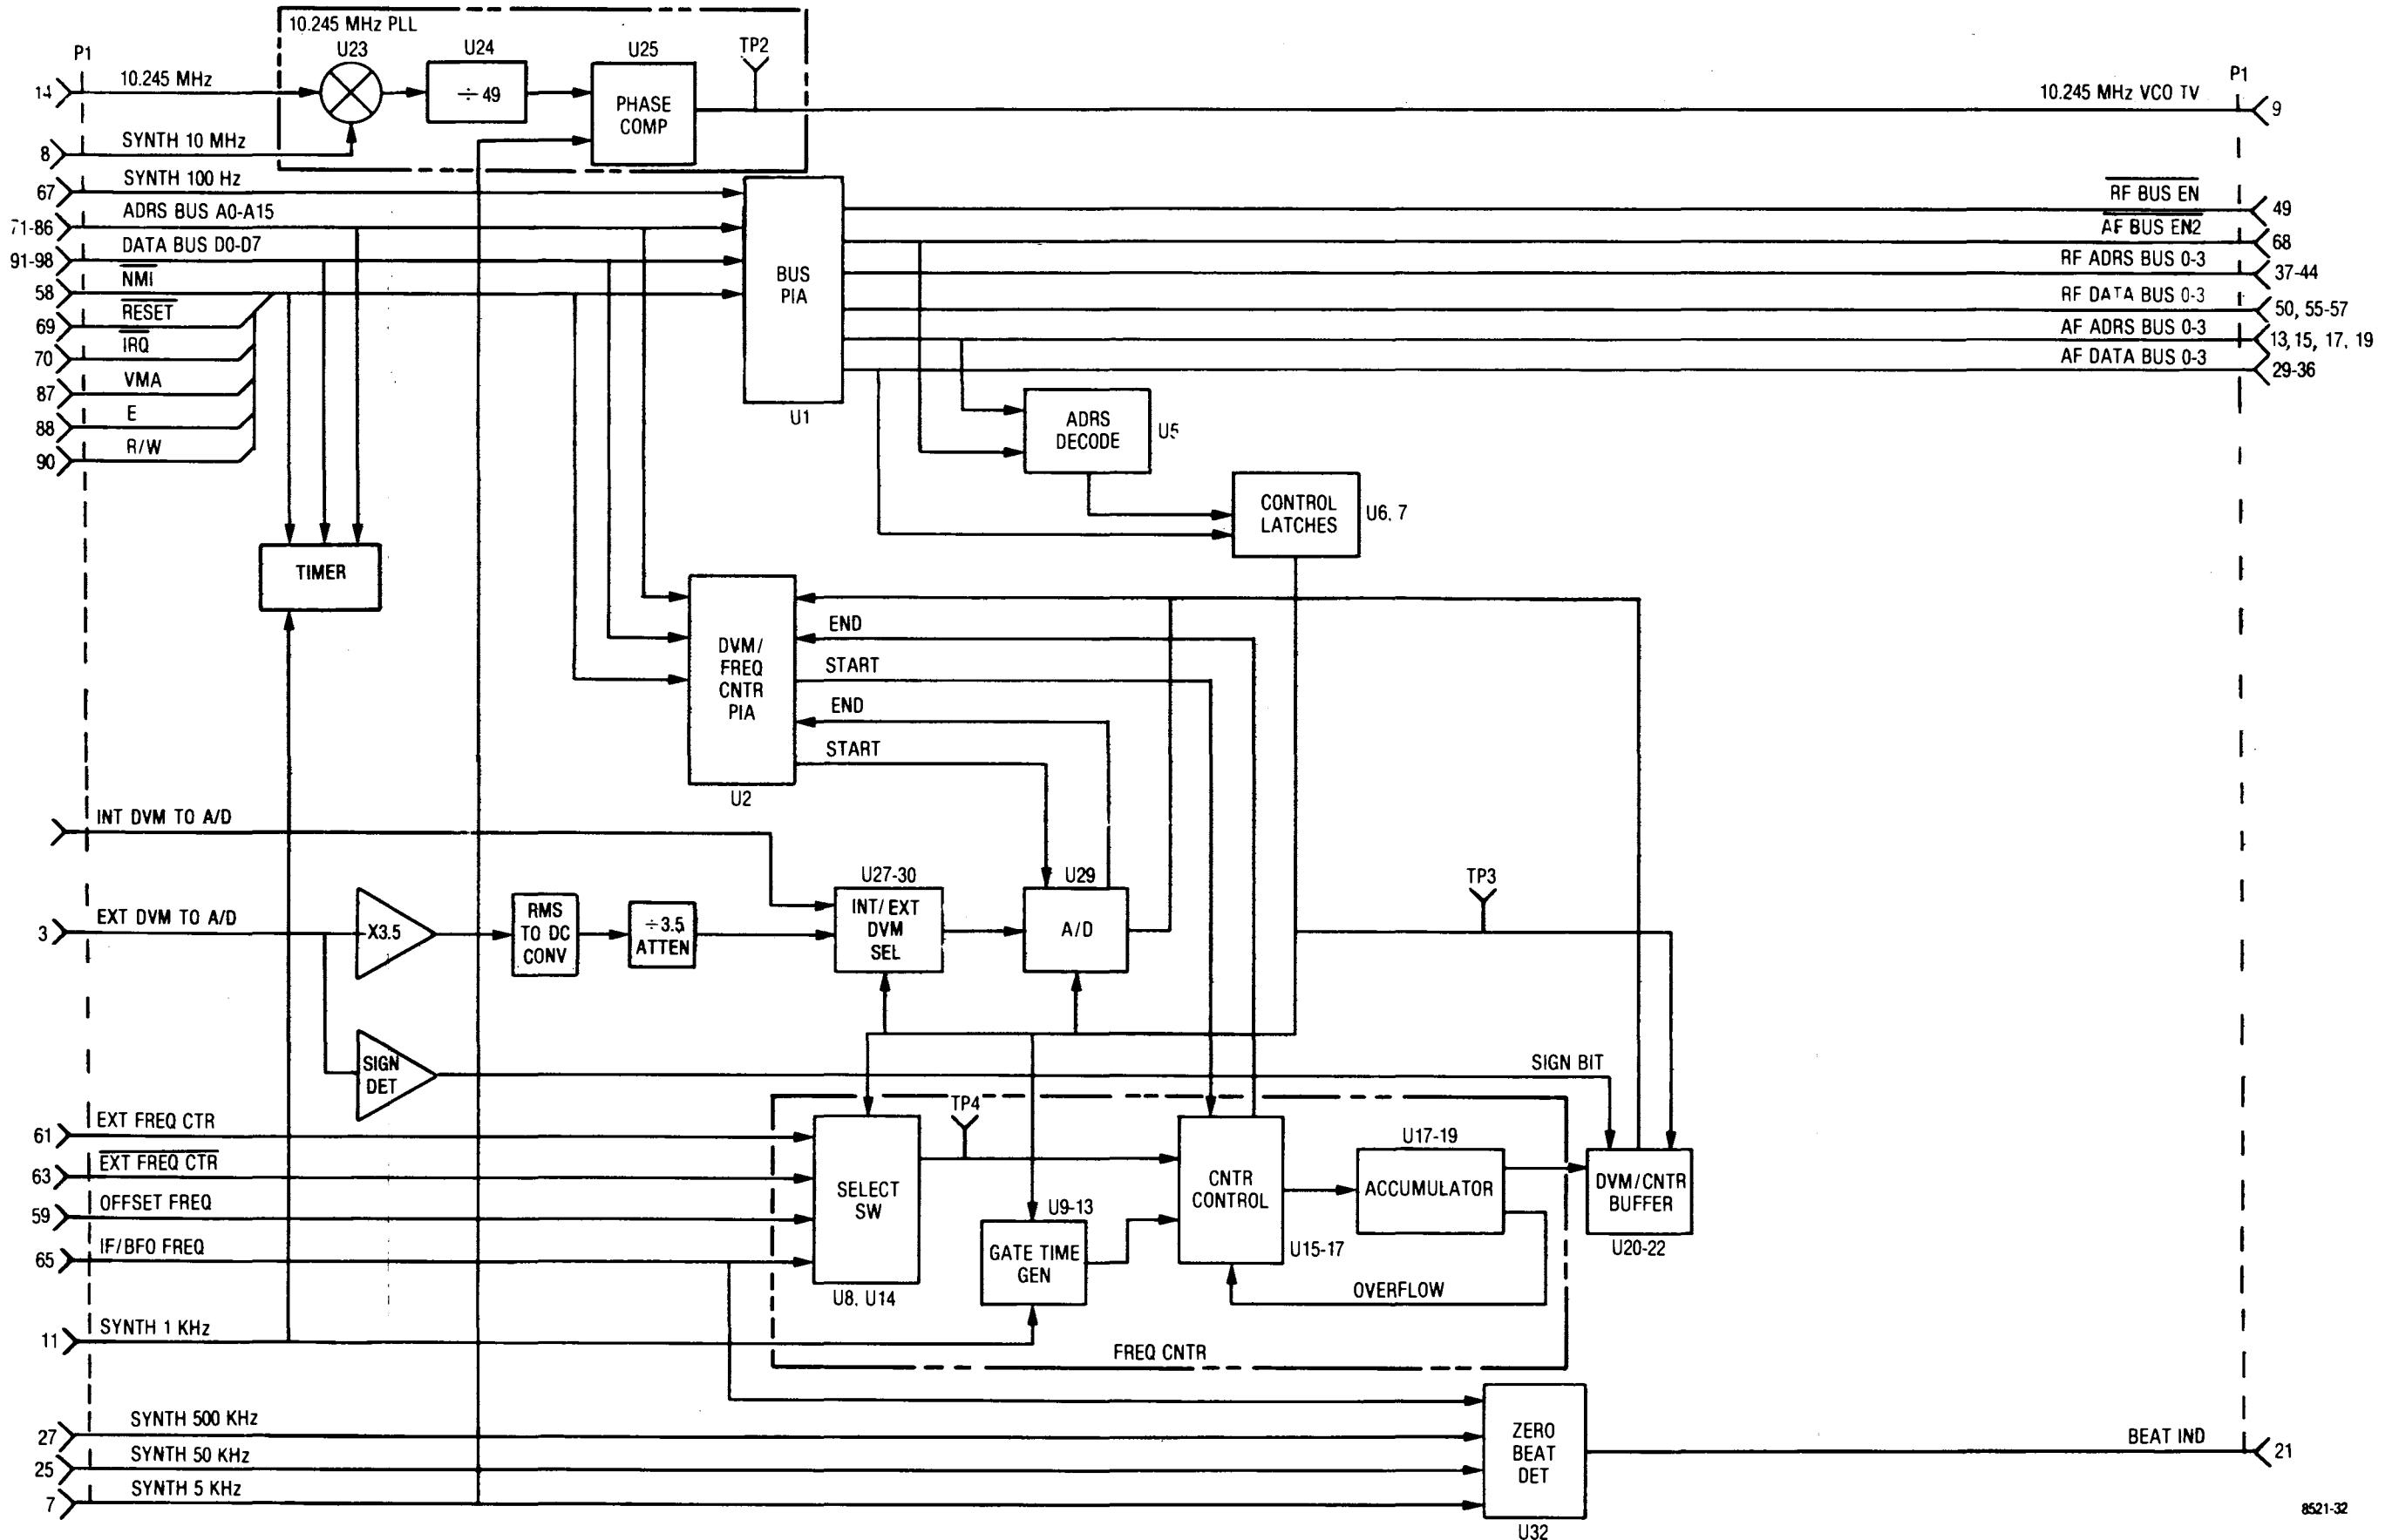

Figure 13-1. Processor I/O A7
**13-1. General.** Frequency Counter and DVM functions with their processor interface as well as the processor interface for the two system control buses are contained on this module. Additionally, circuitry to complete the 10.245 MHz phase locked loop, and to zero beat the incoming carrier are also on this board. A block diagram of the processor I/O module is shown in figure 13-1 with its schematic shown in figure 13.2.